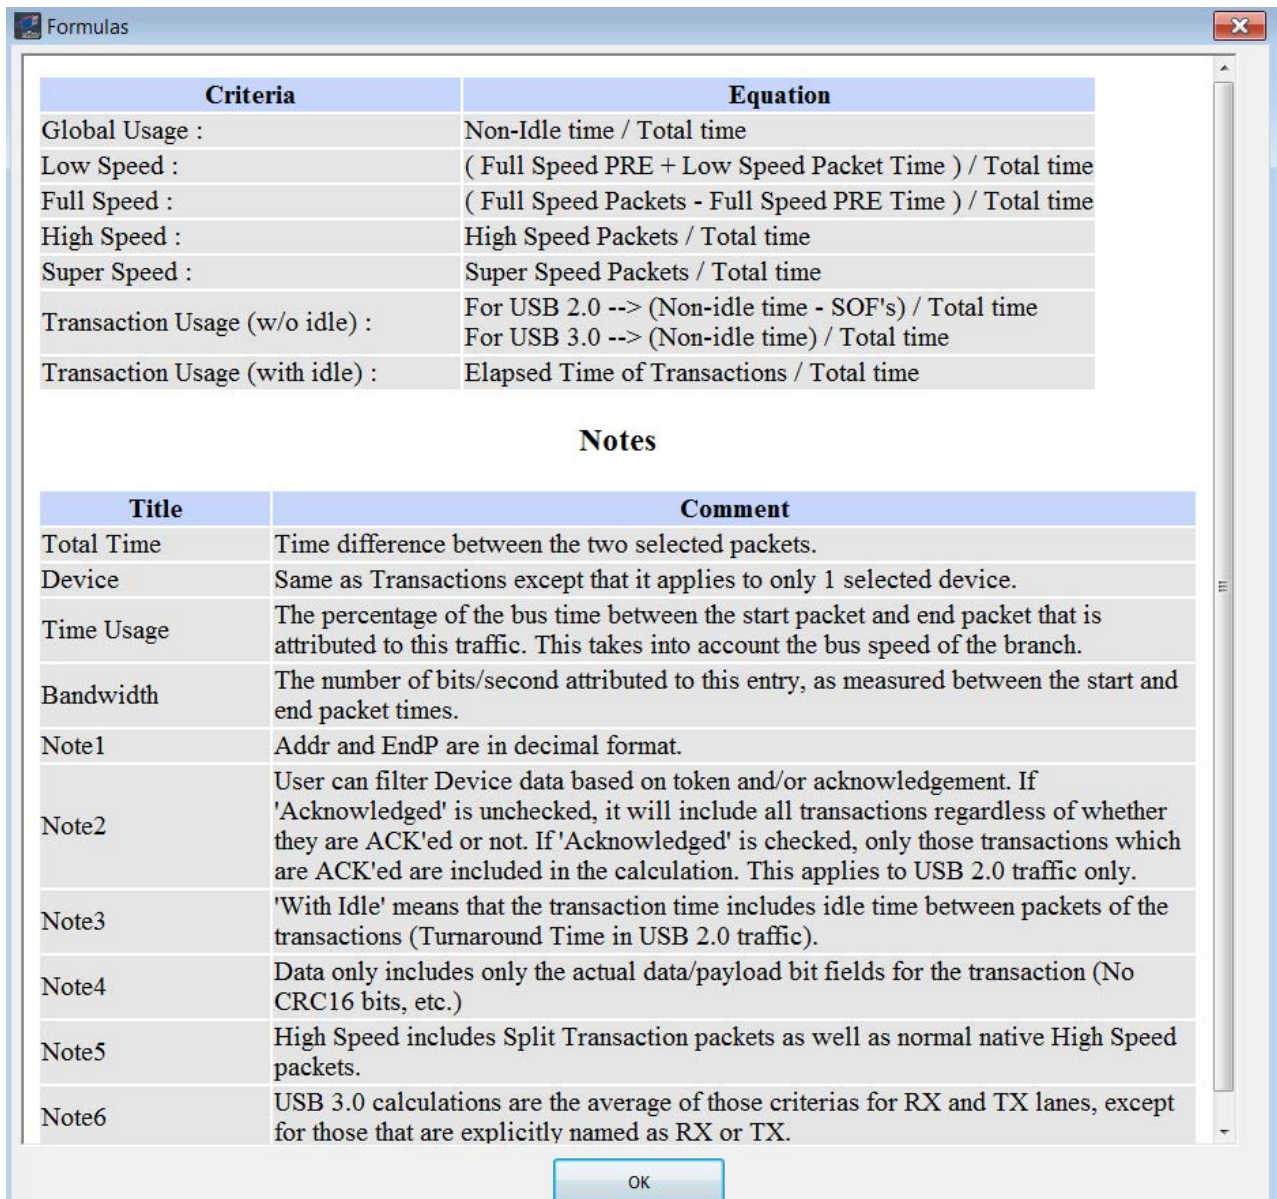

Figure 9.8: Formulas Window
4. Click the **Show Formulas** button to display the Formulas window (see Figure 9.8 on page 227, with the formulas used).